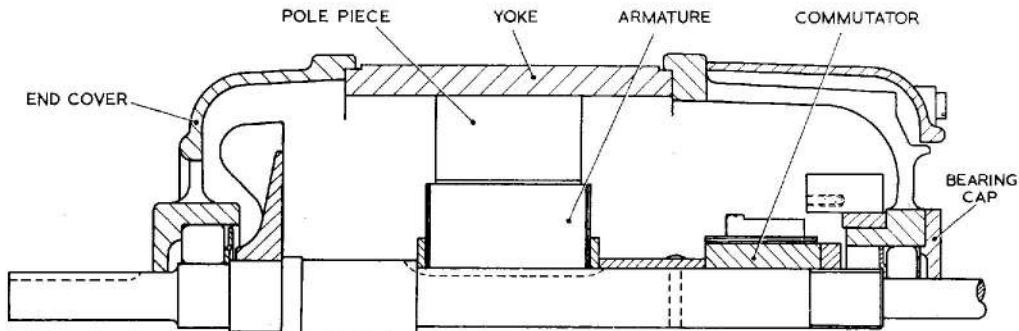

Fig. 3. Sectional view of driving motor
9. To dismantle the armature from the motor, proceed as follows, with reference to fig. 3 :—